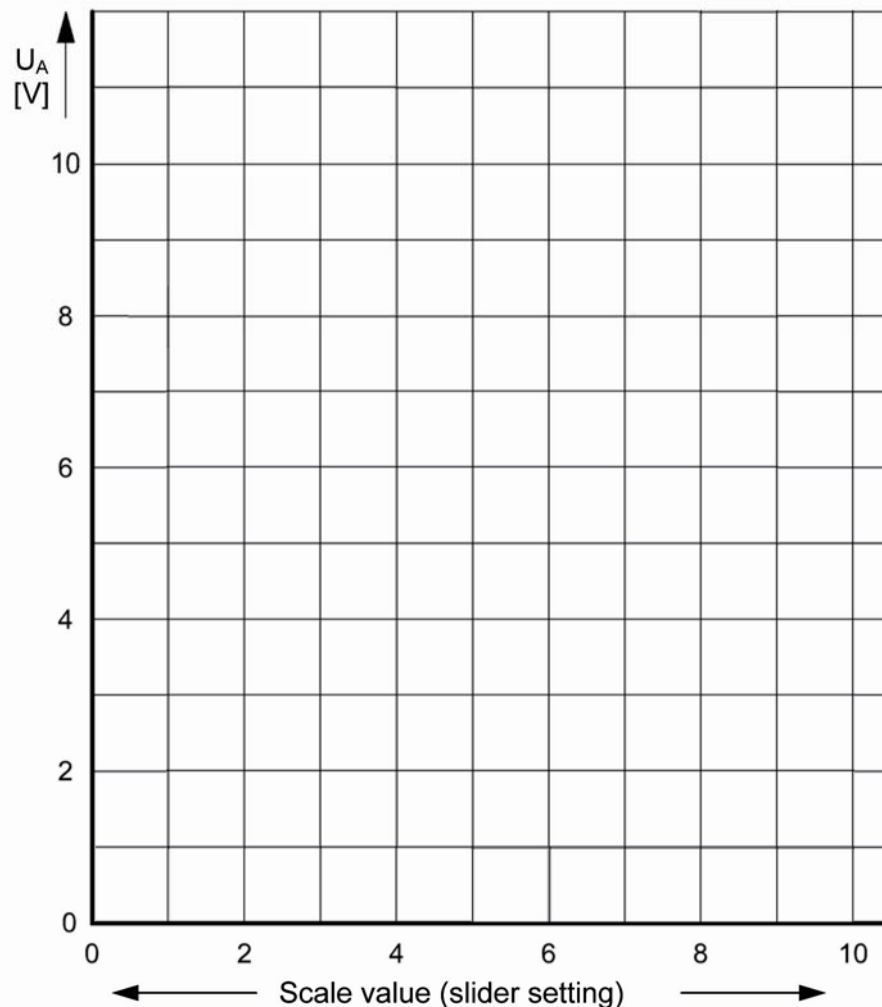

Fig. 4.2.2.5: Characteristics of the potentiometer with different loads
- Plot the values from the table in the chart (Fig. 4.2.2.5) and draw the characteristics $U_A = f(\text{scale value})$.